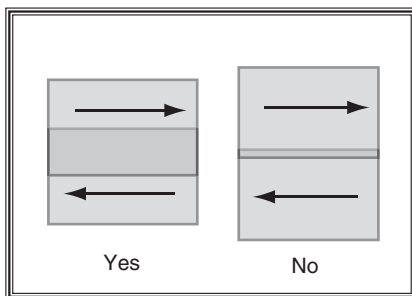

Figure 11. Overlap technique.
14. Overlap each stroke by 50%. This will ensure even coverage, as shown in **Figure 11**. Less than 50%, as shown in the figure to the right, may lead to missed spots or streaky results.